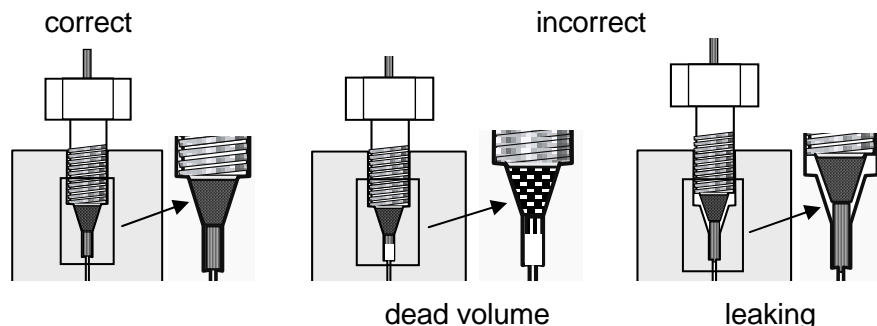

Fig. 11 Seating of capillary connectors
4. Hand tighten the bushing while pushing the capillary towards the port (see Fig. 11).